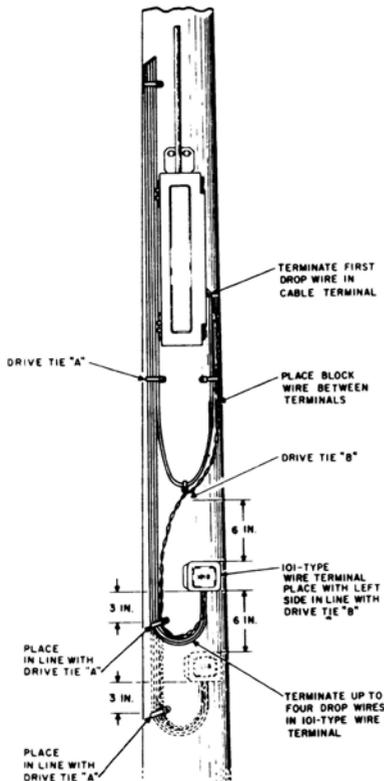

Fig. 27—Wiring 101-Type Terminal at Pole-Mounted Cable Terminal
5.02 See Section 462-240-120 for a description of the 101-type wire terminals. The 101B2 wire terminal supersedes both the 101A and 101B wire terminals. It is used for making party line taps in drop and block wire runs, in distributing drops from cable and open wire lines, and in placing fusible links. The 101-type wire terminal should be mounted on poles and walls as shown on Fig. 27, 28, 29, and 30.